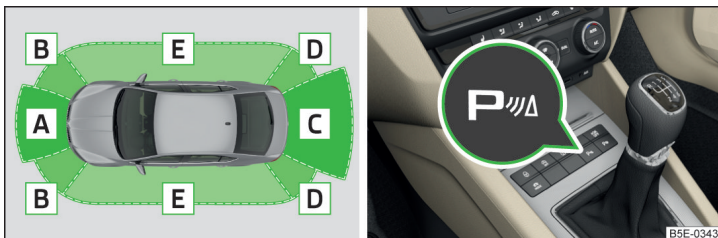

Fig. 138 Sampled areas and range of the sensors / system button (Version 2, 3)
Depending on the equipment, the following system versions can exist » Fig. 138.
On vehicles equipped with a factory-fitted towing device, only the areas **A** and **B** » Fig. 138 of the system are active when operating a trailer, there is no road display.
The system is automatically activated by selecting **reverse gear** or pressing the symbol button **P** » Fig. 138 on page 141.
- The display can be interrupted by pressing the symbol key **P** » Fig. 138 on page 141.